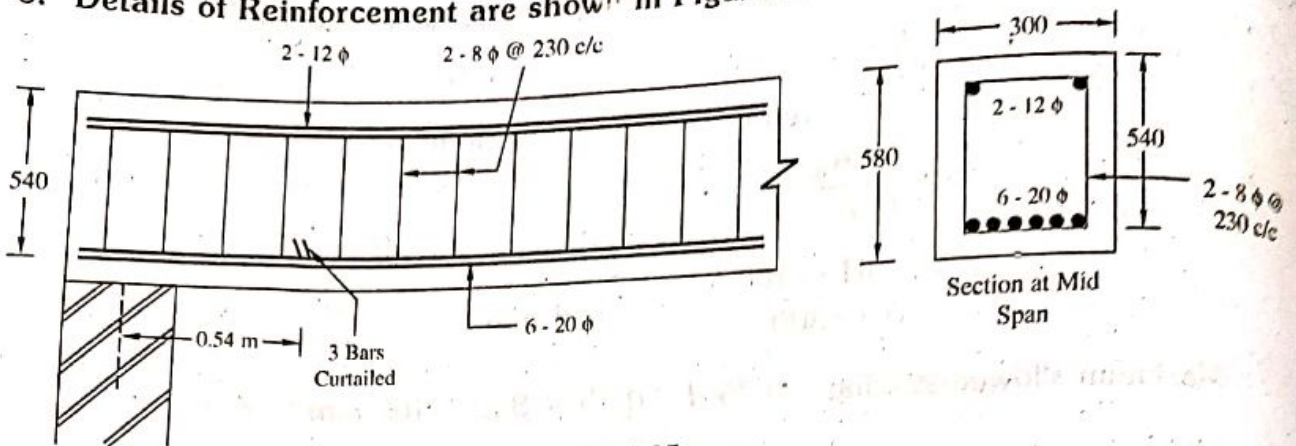

FIG 3.25 :
8. Details of Reinforcement are shown in Figure 3.25.